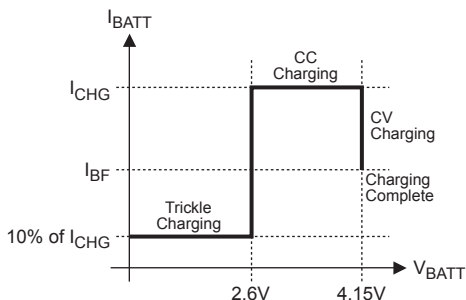
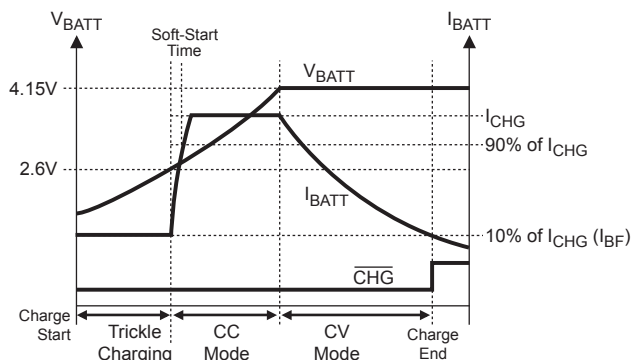

Figure 2—Typical Charging Profile
Figure 3—Typical Charging Procedure
Figure 2 below shows the typical charging profile for the MP26060. Figure 3 shows the typical charging procedure. For a fully depleted battery with a terminal voltage lower than 2.6V, the MP26060 will start with the trickle charge (preconditioning) at 10% of the programmed full charge current. After the battery voltage reaches 2.6V, the charger begins charging at the constant current of the programmed value (I_{CHG}). This is referred to as Constant Current (CC) mode. Once the battery voltage reaches 4.15V, the charger will operate in the constant voltage (CV) mode until the battery is fully charged. The charge current drops during CV mode, and the battery full indication is set when the charge current in the CV mode is reduced to the programmed full battery current (I_{BF}).